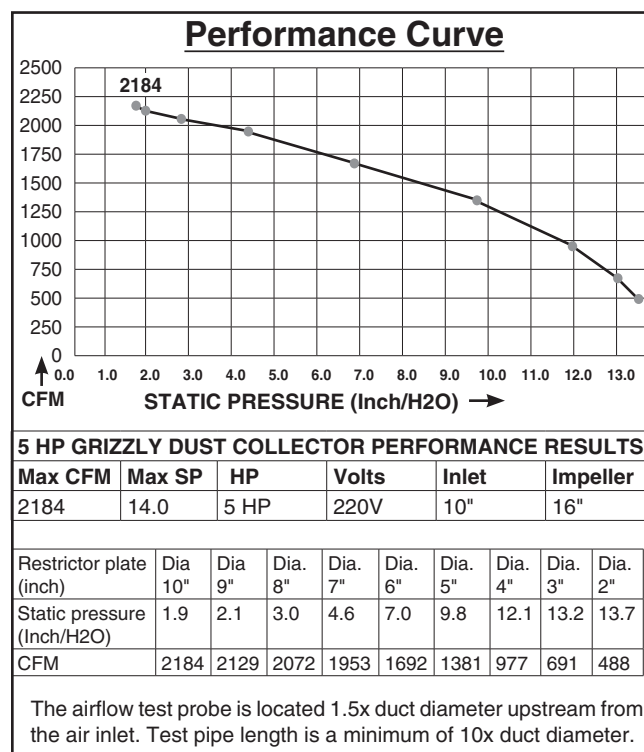

Figure 58. G0442/G0601 performance curve chart and data.
5. Compare the total static pressure loss for that line to the closest CFM given in **Figure 58**.
Example: The G0442/G0601 **Data Sheet Performance Curve** is illustrated in **Figure 58**. Find 4.6 on the Static Pressure axis (the amount of total static pressure loss calculated in **Figure 57**), then refer to the closest value on the CFM axis—approximately 1953 CFM.